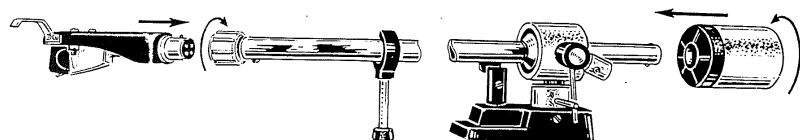

Figure 4. Equipping the Tone Arm
1. Plug the Head Shell (with its pre-equipped cartridge) into the front end of the Tone Arm, and secure it by turning the Lock clockwise (wipe clean all dust from the connecting points of the Head Shell and leave the Stylus Cover on when handling). See Figure 4.
2. Insert the Circular Counter-Balance Weight about $\frac{3}{4}$ " into the end portion of the Tone Arm. The weight moves forward to clockwise revolutions and backward to counter-clockwise revolutions. See Figure 4.